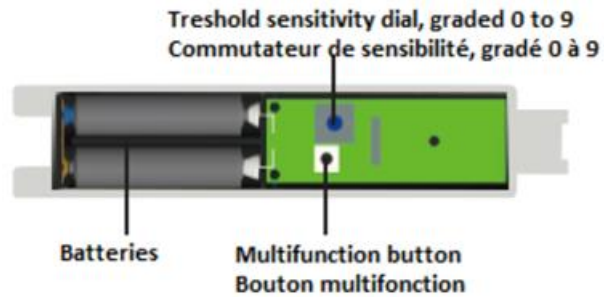

Figure 19
1. **Connect the AC power to the motor and open the awning halfway. On the new wind sensor, put the threshold sensitivity dial to '0'. See figures 19 and 19.1.** Install the batteries while respecting the polarity: the sensor will emit a *'beep'* to indicate it is functional.